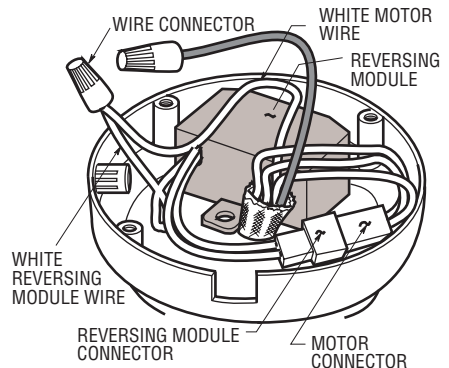

Figure 6
14. Position the reversing module (supplied) in the switch cup; connect the reversing module connector to the motor connector (Figure 6). The connectors are color-coded and keyed and can be connected in only one manner.
15. Using a wire connector (supplied), connect the white wire from the motor to the reversing module white wire (Figure 6).